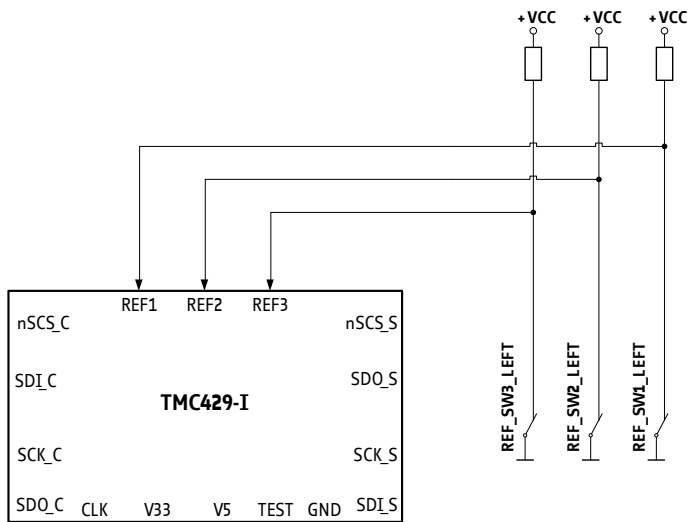
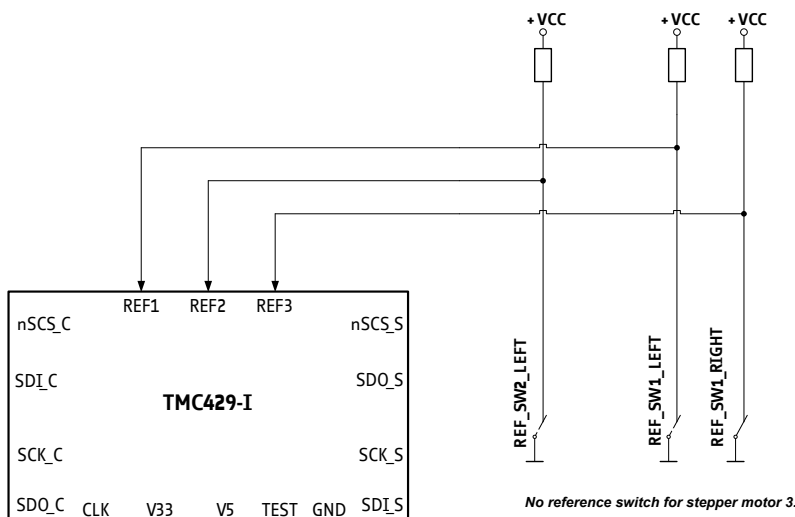

Figure 9.2 Reference switch configuration *left-side-only* for *mot1r=0* (and *refmux=0*)
Figure 9.3 Reference switch configuration *two-one-zero* for *mot1r=1* (and *refmux=0*)
- After power-on-reset, the default setting (*refmux*=0 and *mot1r*=0) selects the basic single reference switch configuration as outlined in Figure 9.2.
The TMC429-I offers three reference switch inputs, which can be used *left-side-only* or *two-one-zero* as shown in Figure 9.2 and in Figure 9.3.
If *mot1r* is set to 1 the input REF1 is also associated with the left reference switch of stepper motor #1. REF2 is also associated to the left reference switch of stepper motor #2. But, the input REF3 is associated to the *right reference switch* of stepper motor #1 and no reference switch input is associated to stepper motor number#3 (see Figure 9.3)